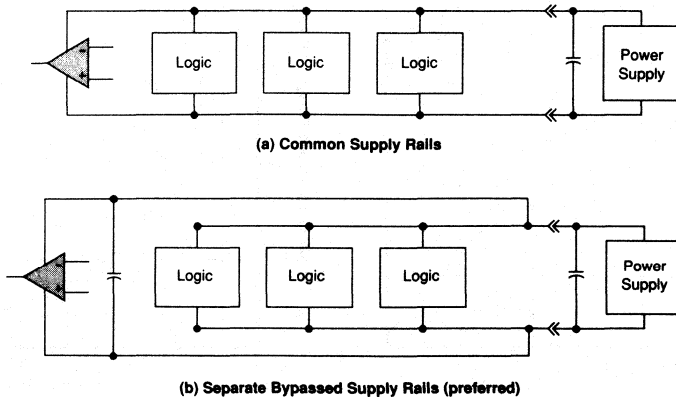

FIGURE 39. COMMON VERSUS SEPARATE SUPPLY RAILS
1. Power the linear devices from separate bypassed supply lines (see Figure 39); otherwise the linear device supply rails can fluctuate due to voltage drops caused by high switching currents in the digital logic.